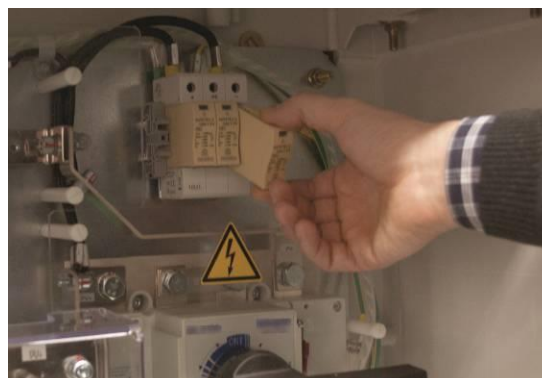

Figure 5.3 Removing a damaged surge arrester
3. Remove the defective surge arrester(s) by pulling it out of the fuse holder and place a new one (see *Figure 5.3*).